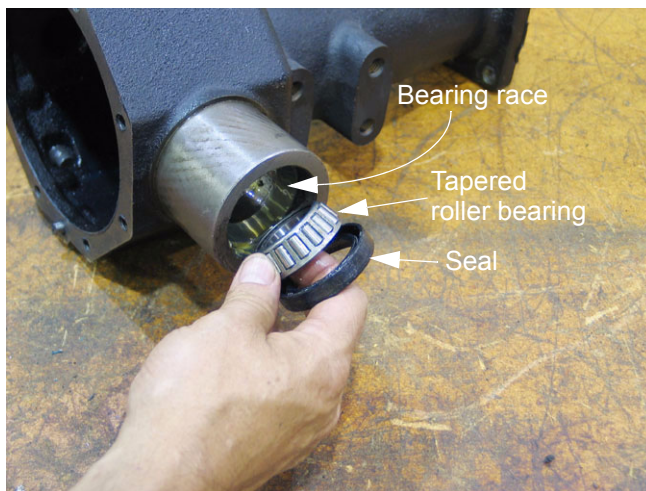

Figure 9.21
- 9.21. Pry out the pinion seal. The outer pinion bearing will come out when the seal is removed. See Figure 9.21.